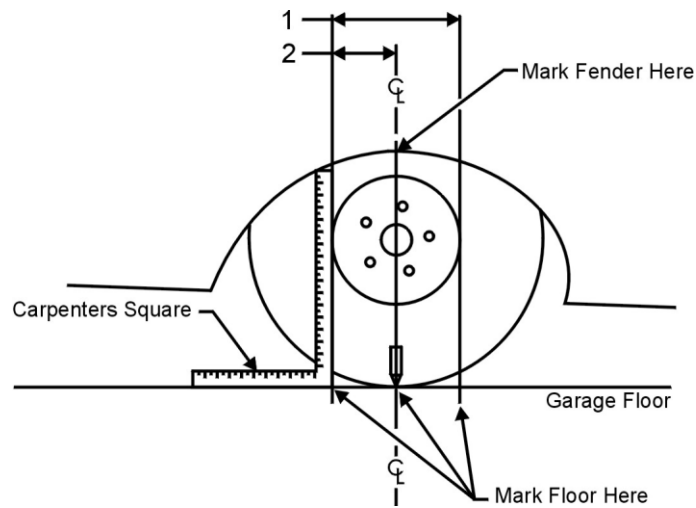

Figure 1
3. Now the centerline of the axle can be found correctly. If, for some reason the rear end housing or car gets moved during installation, you will have these marks to correctly reposition the rear in the car later. Using a carpenter square and plumb bob, mark the rear axle center line on the floor and the fenders for future reference (**See Figure 1**). Begin